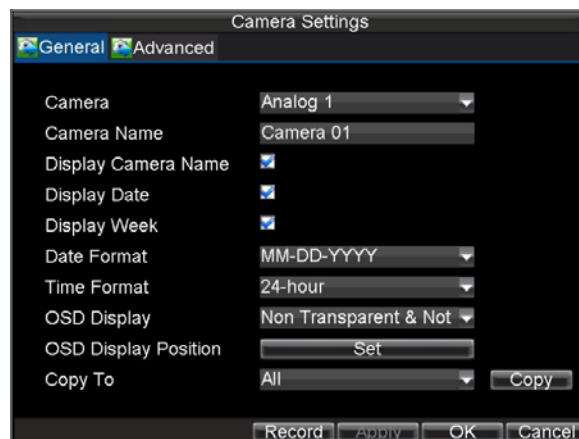

Figure 6. OSD Settings Menu
3. Configure desired OSD settings, as shown in Figure 6.